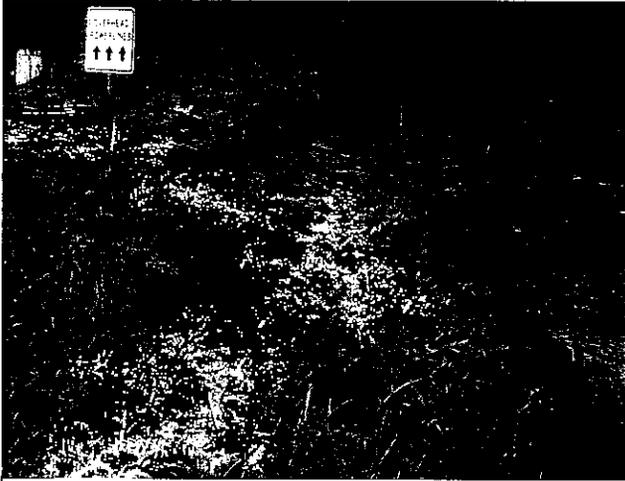

Figure 1 – The bare dirt within the silt fence border lacks stabilization.
1. The area within the silt fence border, which surrounds the outlet pipe that runs through the site, lacks stabilization (Figure 1). Please seed and mulch all bare areas within the silt fence and add rip-rap along the channel where water discharges from the outlet pipe. This will prevent the clean water from collecting sediment as it flows through the channel.